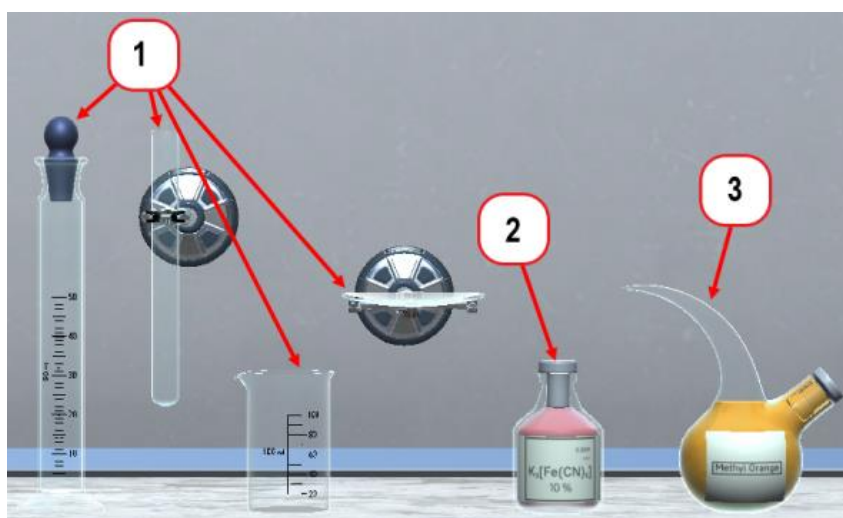

Figure 55 – Different types of containers for liquids
Liquids in the Virtual Laboratory can be in glassware (1), source containers (2), or drippers (3) (Figure 55).